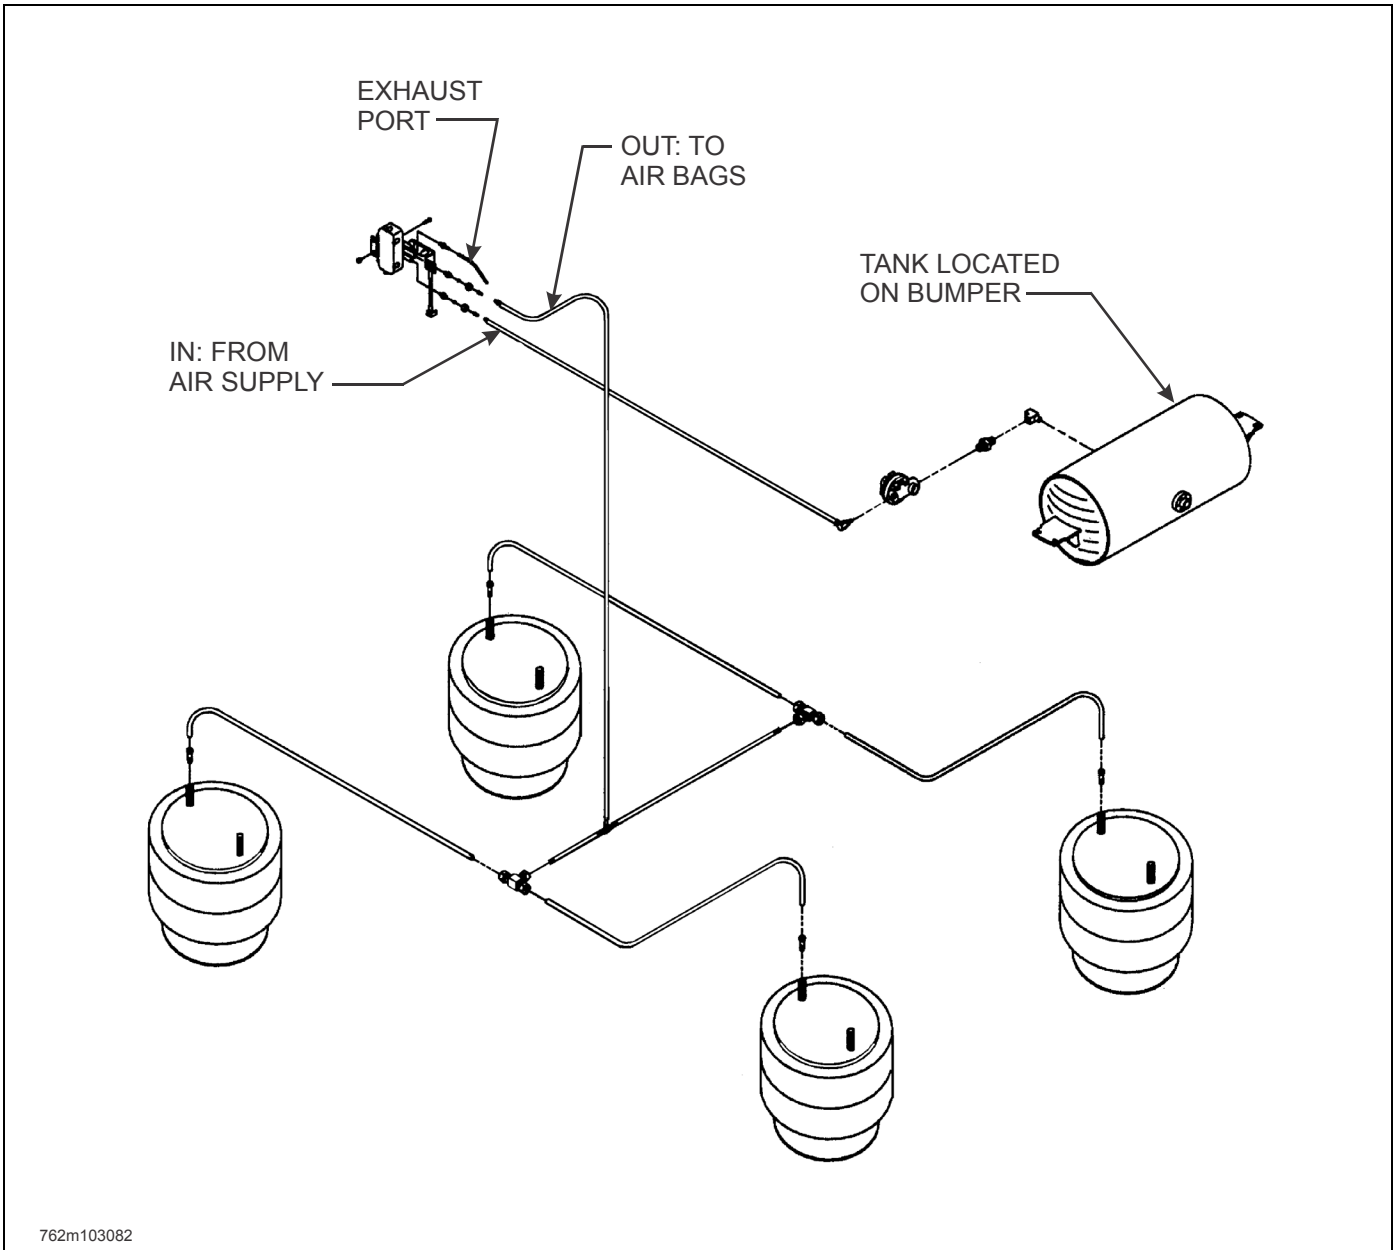

Figure 4-5: Tandem Axle Air Ride Suspension System
1. **See Figures 4-5 and 4-7** for Tandem and Triple Axle Air Ride Suspension drawings.